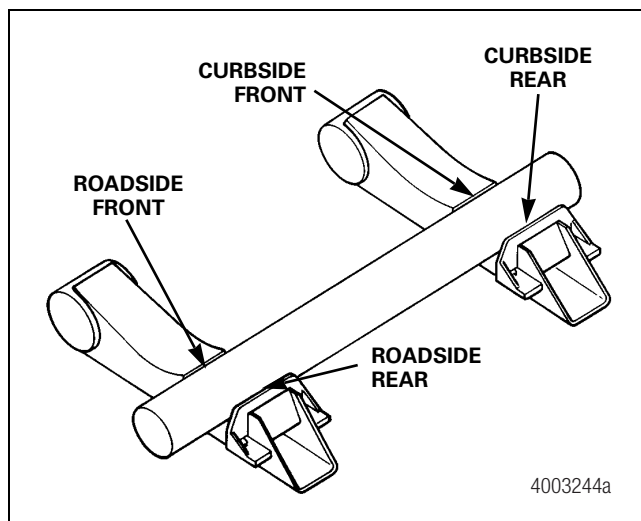

Figure 7.17
- Some brackets are attached to trailer axles with multiple welds. For example, at each of the weld locations shown in Figure 7.17, roadside front, curbside rear, etc., three weld passes are applied. Axle distortion can be minimized in this situation by sequencing the welds. This involves alternating weld passes from the front to the rear of an individual bracket and between the brackets located on the axle roadside and curbside. This is in contrast to applying all the welds at one bracket location prior to applying the welds at other locations.